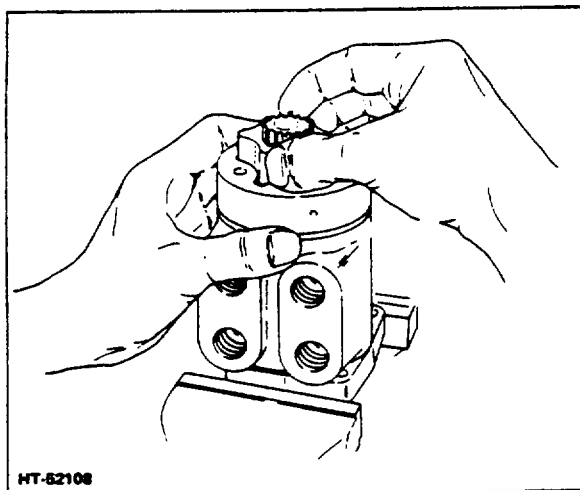

Figure 3-22. Installing Meter Gear Star
20. Install the splined end of the drive into the meter gear star so the slot at the control end of the drive is aligned with the valleys between the meter gear teeth (Fig 3-22).